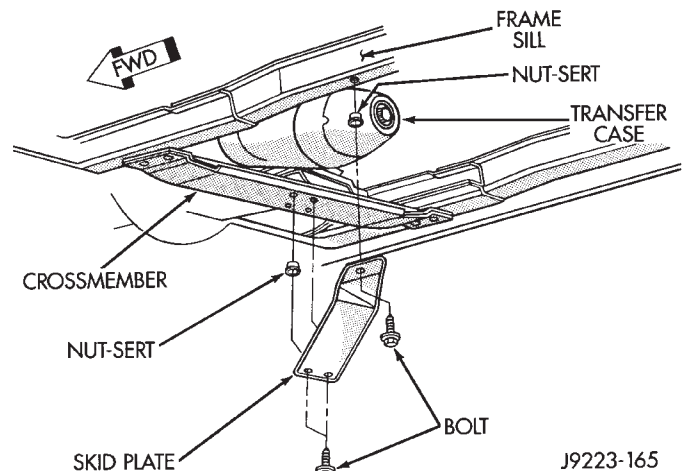

Fig. 2 Transfer Case Skid Plate
- (1) Support the skid plate.
- (2) Remove the bolts that attach the skid plate to the transmission support crossmember and frame sill (Fig. 2).
- (1) Position and support the skid plate at the frame sill and transmission support crossmember (Fig. 2).
- (2) Attach the skid plate to the frame sill and crossmember with bolts. Tighten bolts to 22 N·m (16 ft-lbs) torque.